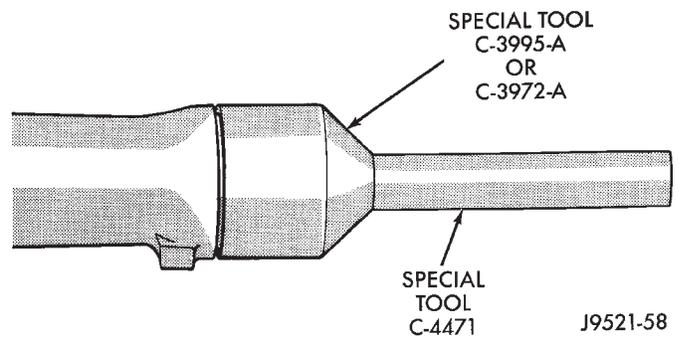

Fig. 30 Installing Overdrive Housing Yoke Seal
- (1) Place seal in position on overdrive housing.
- (2) Drive seal into overdrive housing with Seal Installer C-3995-A (Fig. 30).
- (3) Carefully guide propeller shaft slip yoke into housing and onto output shaft splines. Align marks made at removal and connect propeller shaft to rear axle pinion yoke.